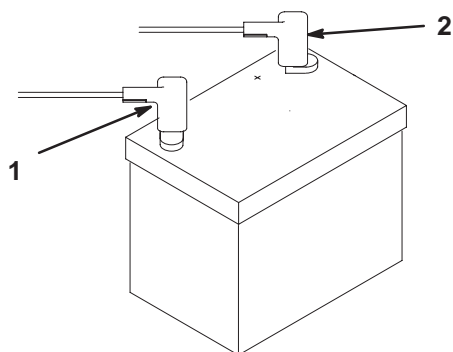

Figure 7
2. Connect the positive battery cable (red) from the starter solenoid to the positive post (+) of the battery (Fig. 7). Secure it with a wrench and coat the terminal with petroleum jelly. Make sure the cable will clear the seat, in the rear-most position, which could cause wear or damage to the cable.